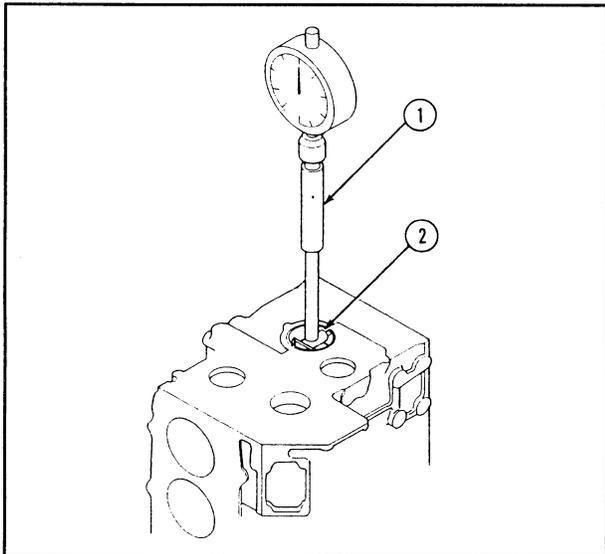

Figure 3
1. Measure the inside bearing diameter of the front main bearing, Figure 3, and crankshaft front journal diameter.